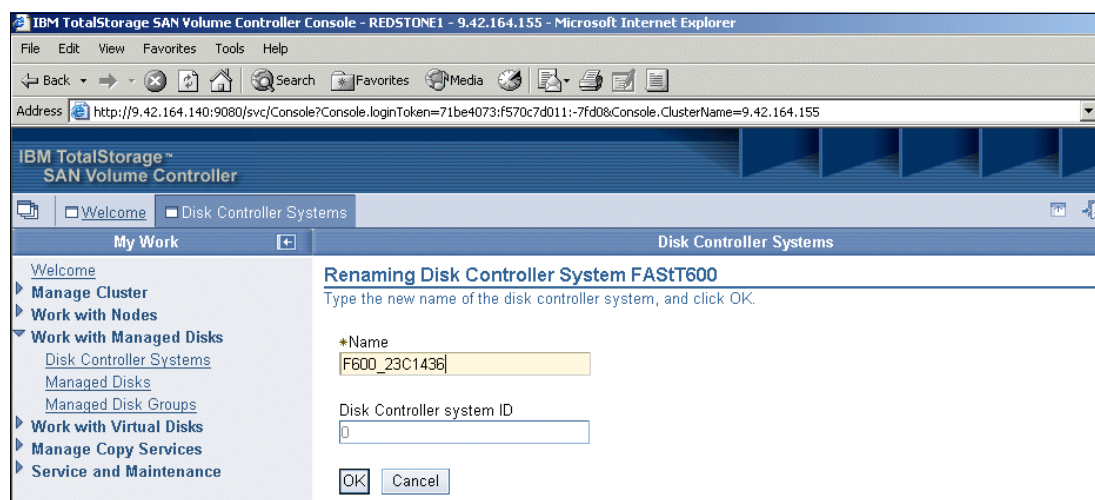

Figure 9-28 Renaming a controller
2. On the Renaming Disk Controller System *controllername* panel (where *controllername* is the controller you selected in the previous step), type the new name you want to assign to the controller and click **OK**. See Figure 9-28.